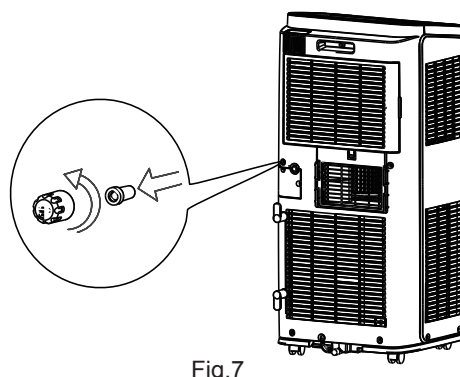

Fig.7
(1) Remove the continuous drain cap 1 by turning it counter clockwise then remove the rubber stopper 2 from the spout. (As show in Fig.7)